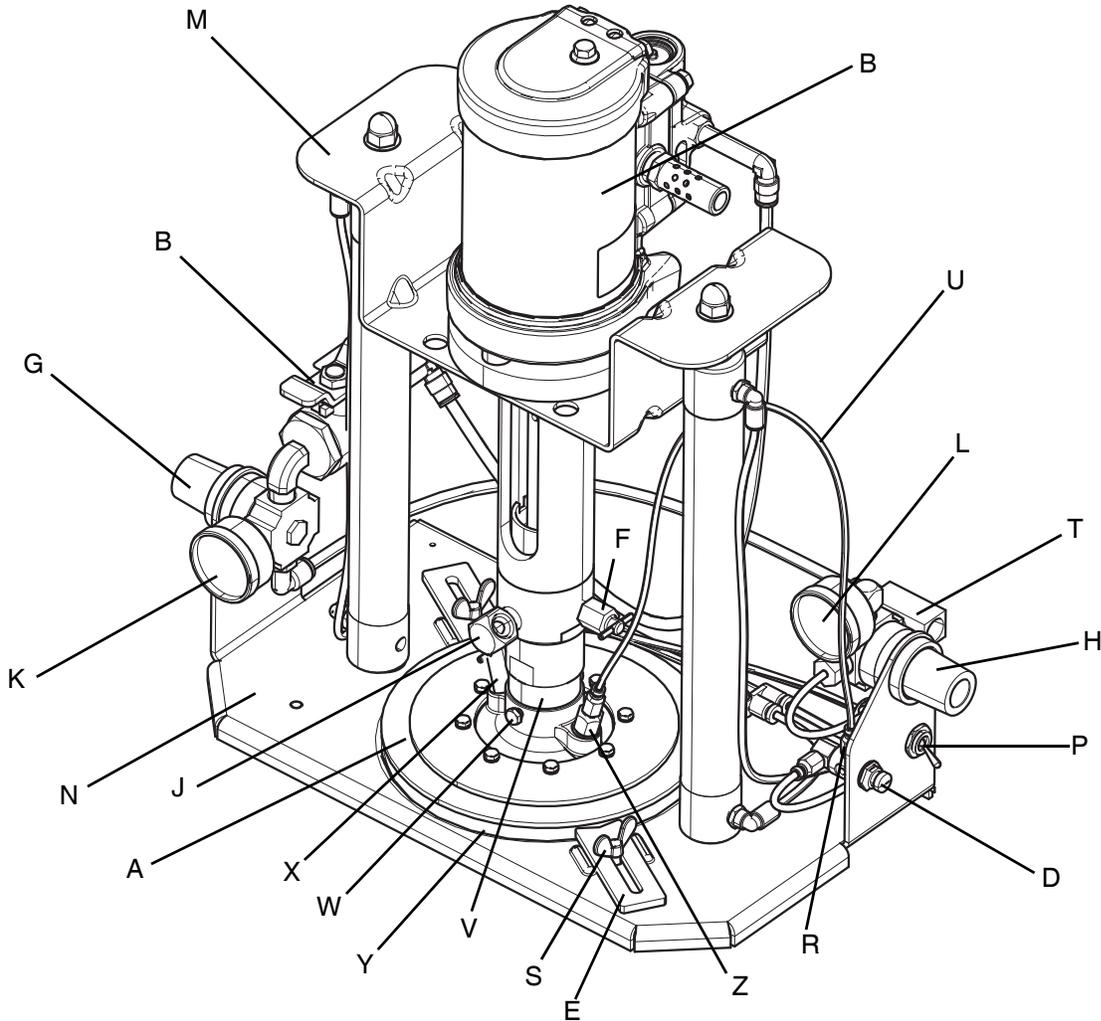

FIG. 1: System Components
NOTE: Reference numbers and letters in parentheses in the text refer to the callouts in FIG. 1 on page 6 and the parts drawings. Refer to those for installation.
2. See **Pump Components and Accessories** on page 8. Connect an air supply hose to the 1/4 npt(f) main air line inlet fitting (T). See FIG. 1 on page 6. See **Connect and Disconnect Tubes** on page 8.
The following components are supplied with the pump (see FIG. 1 on page 6).
NOTE: Reference numbers and letters in parentheses in the text refer to the callouts in FIG. 1 on page 6 and the parts drawings. Refer to those for operation.